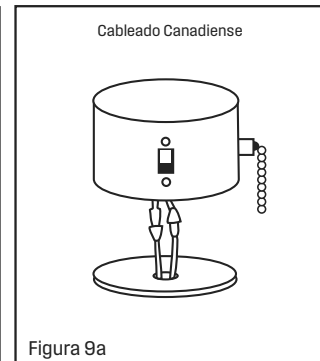

Figure 9a
5. NOTE: For French Canadian specs, please use the plug system (See figure 9a). If using with a UL spec fan, please cut off plugs, and wire with wire nuts provided with the fan.
7. NOTE: For French Canadian specs, please use the plug system (See figure 9a). If using with a UL spec fan, please cut off plugs, and wire with wire nuts provided with fan.
5. NOTE: For French Canadian specs, please use the plug system (See figure 9a). If using with a UL spec fan, please cut off plugs, and wire with wire nuts provided with fan.